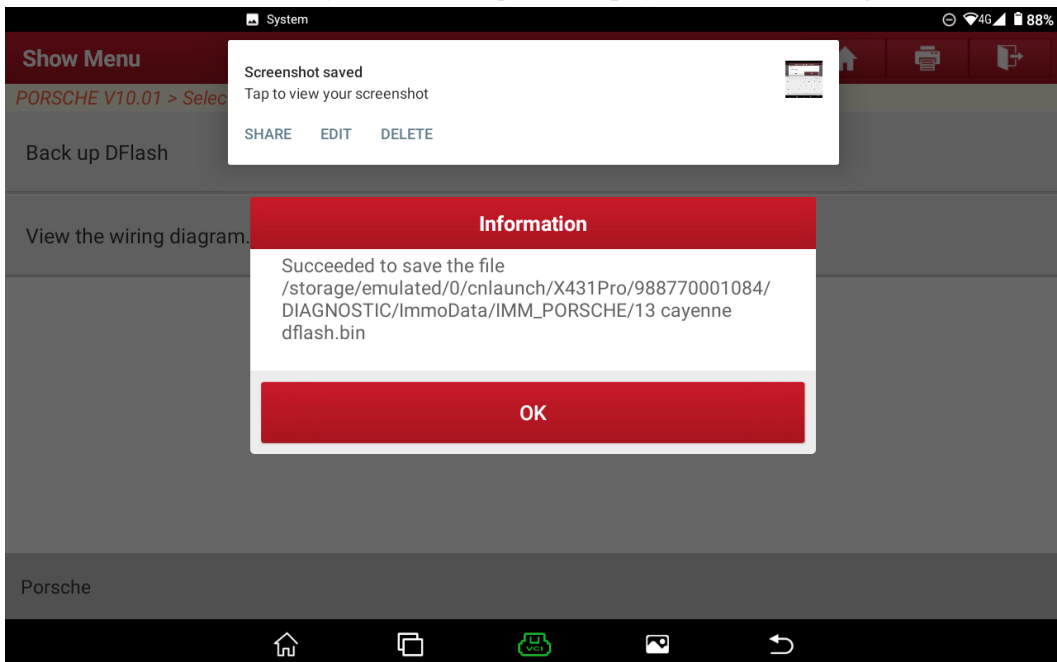

Figure 1-8 File save path
- 7. The file is saved successfully, and the save path is displayed, as shown in Figure 1-8.